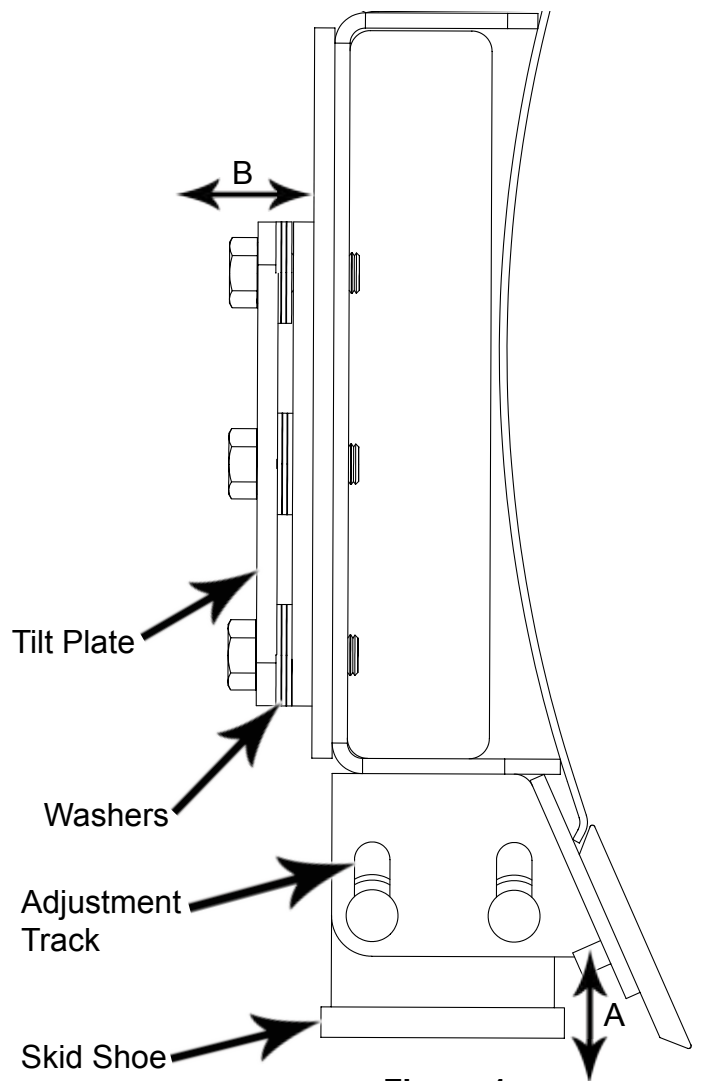

Figure 1
2. Loosen nuts and set skid shoe depth by sliding the shoe up and down in direction 'A' shown in Figure 1.
2. Add or remove washers as needed to adjust tilt-way clearance to have $1/16"$ - $1/8"$ of clearance in direction 'B' shown in Figure 1.